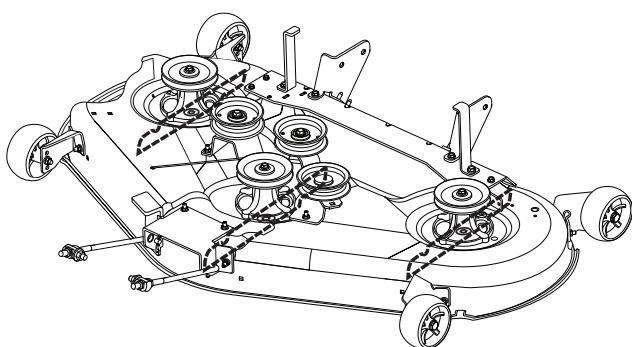

Figure 38. Orient Blades Front-to-Back
1. Turn the blades front-to-back as shown in Figure 38. Measure the distance from the ground to front tip of center blade, and from ground to rear tips of left hand and right hand blades (see Figure 38). Front tips should be $1/8\text{``}-1/4\text{``}$ (3-6 mm) higher than rear tips. If not, proceed to Step 2.